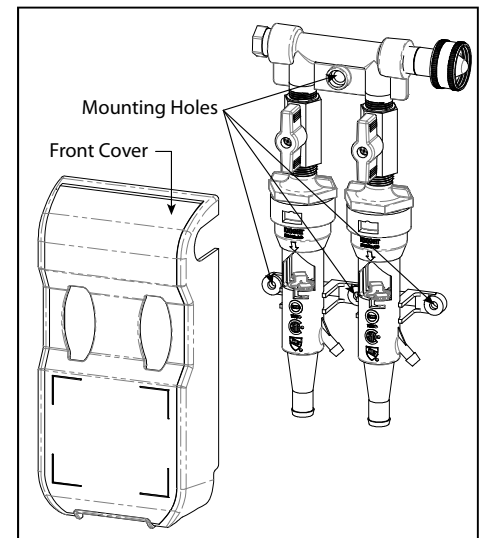

Figure 1
- (1) Choose a mounting location within easy reach of the sink. Make sure the Sink Mate Hospitality is at least 12 inches above the chemical supply containers and not more than 5' above the chemical container.
- (2) Mount the unit by snapping off the front cover. Make sure the ball valve dials are vertical when snapping off the cover. Hold the dispenser against wall and mark key holes. Drill holes and use the mounting screws supplied or masonry screws (not supplied) to mount on the wall. See Figure 1
- (3) Connect the water supply to the swivel garden hose connection. Optimum water pressure is 40 - 50 PSI (water pressure over 50 PSI may cause splash-out on Aire-Gap equipped units). It may be possible to use a saddle-clamp to plumb directly into the water line.